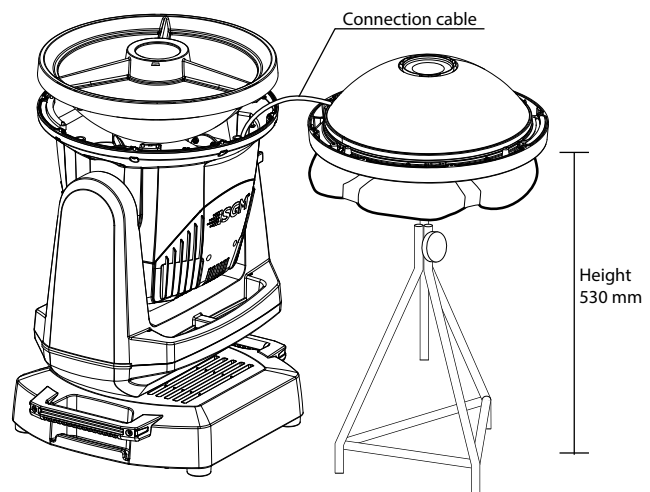

Figure 15
4. Place the front ring, with the lens facing down, over the elevated flat, clean and scratch-free surface. Notice that the electrical wire connecting the light source to the head is short and located left of the tilt lock (figure 15). Avoid touching the reflector, and cover it with a dust-free cloth.